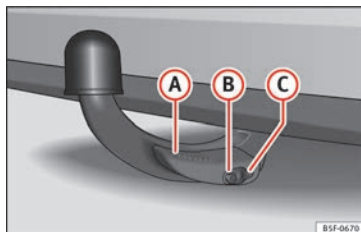

Fig. 229 Detachable ball properly attached.
- Lever ① » Fig. 229 is fully raised.
- The release bolt ② » Fig. 229 is sticking fully out (the red and green part is visible).
- Cover ③ » Fig. 229 is placed over the lock.